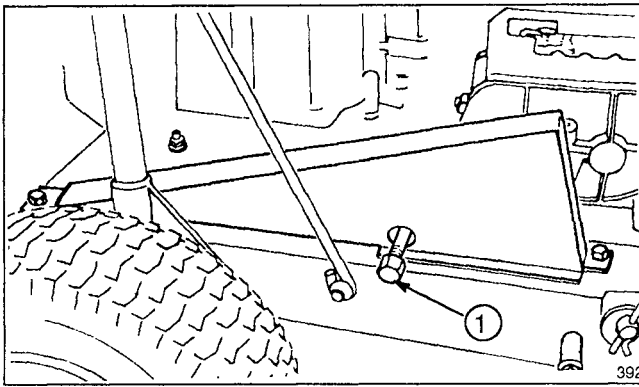

Figure 12
5. Remove drain plug (Fig. 12).